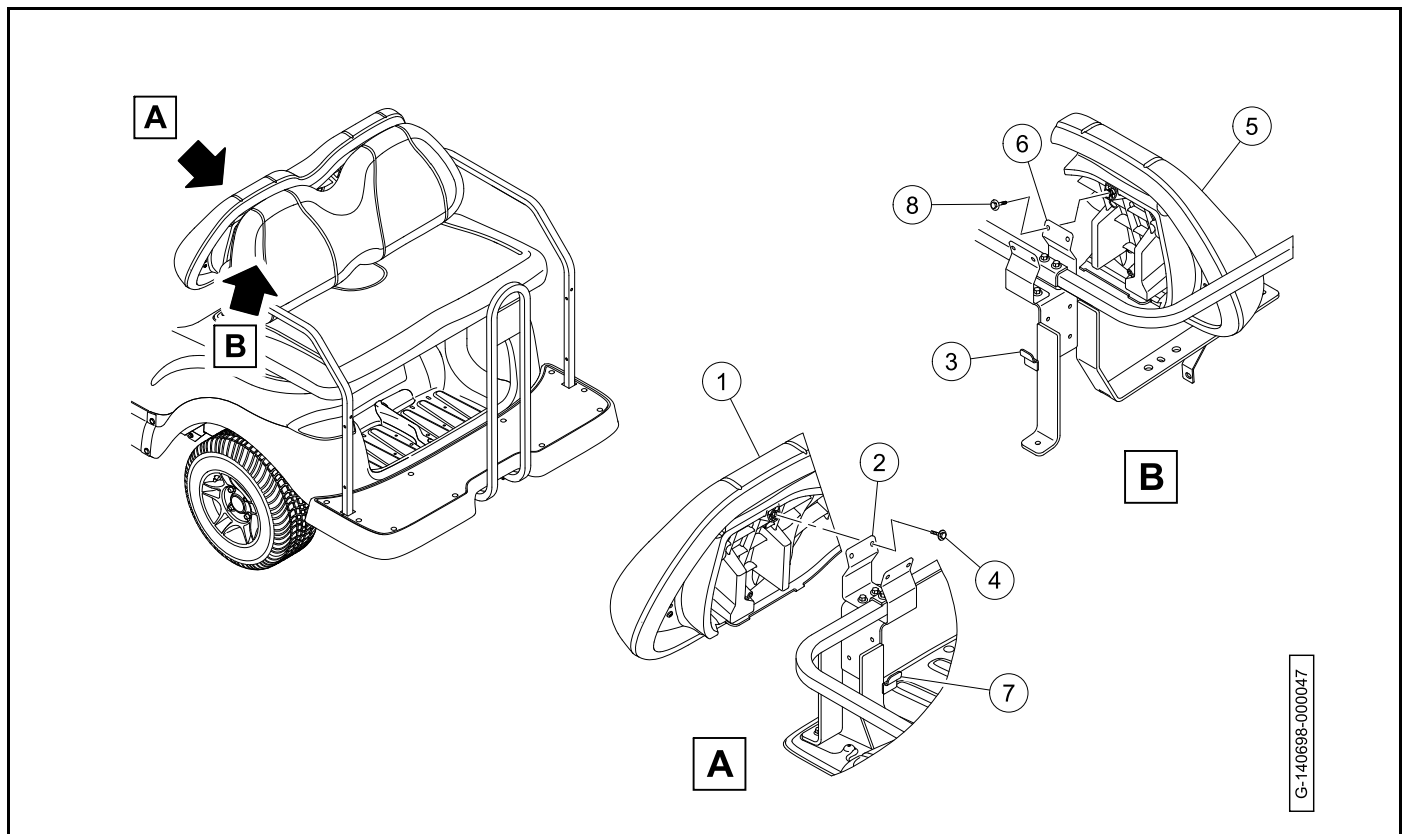

Figure 4-43 Seat Back Installation
1. Install the front seat back (1) onto the seat support (2). Make sure the seat support tab (3) is installed in the front seat back (**Figure 4-43**).
2. Install the screws (4). Tighten the screw to 4.4 lb·ft (6 N·m).
3. Install the rear seat back (5) onto the seat support (6). Make sure the seat support tab (7) is installed in the rear seat back.
4. Install the screws (8). Tighten the screw to 4.4 lb·ft (6 N·m).